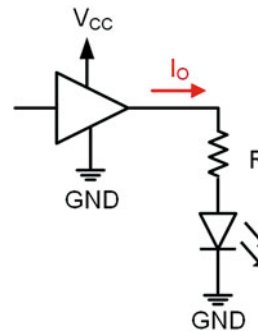

Fig. 3.42
- 3.4.39** For the LED driver configuration shown in Fig. 3.42 where an output of HIGH on the driver will turn on the LED, what is the output current (I_O) if $V_{CC} = +5\text{v}$, $R = 50\ \Omega$, and the LED has a forward voltage of $V_f = 1.9\text{v}$?
- 3.4.40** For the LED driver configuration shown in Fig. 3.42 where an output of HIGH on the driver will turn on the LED, what is the output current (I_O) if $V_{CC} = +5\text{v}$, $R = 100\ \Omega$, and the LED has a forward voltage of $V_f = 1.9\text{v}$?
- 3.4.41** For the LED driver configuration shown in Fig. 3.42 where an output of HIGH on the driver will turn on the LED, what is the output current (I_O) if $V_{CC} = +5\text{v}$, $R = 1\text{k}\Omega$, and the LED has a forward voltage of $V_f = 1.9\text{v}$?
- 3.4.42** For the LED driver configuration shown in Fig. 3.42 where an output of HIGH on the driver will turn on the LED, what is the output current (I_O) if $V_{CC} = +3.4\text{v}$, $R = 50\ \Omega$, and the LED has a forward voltage of $V_f = 1.9\text{v}$?
- 3.4.43** For the LED driver configuration shown in Fig. 3.42 where an output of HIGH on the driver will turn on the LED, what is the output current
- 3.4.44** For the LED driver configuration shown in Fig. 3.42 where an output of HIGH on the driver will turn on the LED, what is the output current (I_O) if $V_{CC} = +3.4\text{v}$, $R = 1\text{k}\Omega$, and the LED has a forward voltage of $V_f = 1.9\text{v}$?
- 3.4.45** For the LED driver configuration shown in Fig. 3.42 where an output of HIGH on the driver will turn on the LED, if $V_{CC} = +5\text{v}$, $R = 75\ \Omega$, $V_f = 1.9\text{v}$, and $I_{O-MAX} = 25\ \text{mA}$, is the maximum output current specification violated?
- 3.4.46** For the LED driver configuration shown in Fig. 3.42 where an output of HIGH on the driver will turn on the LED, if $V_{CC} = +5\text{v}$, $R = 150\ \Omega$, $V_f = 1.9\text{v}$, and $I_{O-MAX} = 25\ \text{mA}$, is the maximum output current specification violated?
- 3.4.47** For the LED driver configuration shown in Fig. 3.42 where an output of HIGH on the driver will turn on the LED, if $V_{CC} = +5\text{v}$, $R = 500\ \Omega$, $V_f = 1.9\text{v}$, and $I_{O-MAX} = 25\ \text{mA}$, is the maximum output current specification violated?
- 3.4.48** For the LED driver configuration shown in Fig. 3.42 where an output of HIGH on the driver will turn on the LED, if $V_{CC} = +3.4\text{v}$, $R = 75\ \Omega$, $V_f = 1.9\text{v}$, and $I_{O-MAX} = 15\ \text{mA}$, is the maximum output current specification violated?
- 3.4.49** For the LED driver configuration shown in Fig. 3.42 where an output of HIGH on the driver will turn on the LED, if $V_{CC} = +3.4\text{v}$, $R = 150\ \Omega$, $V_f = 1.9\text{v}$, and $I_{O-MAX} = 15\ \text{mA}$, is the maximum output current specification violated?
- 3.4.50** For the LED driver configuration shown in Fig. 3.42 where an output of HIGH on the driver will turn on the LED, if $V_{CC} = +3.4\text{v}$, $R = 500\ \Omega$, $V_f = 1.9\text{v}$, and $I_{O-MAX} = 15\ \text{mA}$, is the maximum output current specification violated?
- 3.4.51** For the LED driver configuration shown in Fig. 3.42 where an output of HIGH on the driver will turn on the LED with $V_{CC} = +5\text{v}$ and $V_f = 1.9\text{v}$, calculate the value of the resistor (R) in order to set the current through the LED to be $5\ \text{mA}$.
- 3.4.52** For the LED driver configuration shown in Fig. 3.42 where an output of HIGH on the driver will turn on the LED with $V_{CC} = +5\text{v}$ and $V_f = 1.9\text{v}$, calculate the value of the resistor (R) in order to set the current through the LED to be $12\ \text{mA}$.
- 3.4.53** For the LED driver configuration shown in Fig. 3.42 where an output of HIGH on the driver will turn on the LED with $V_{CC} = +5\text{v}$ and $V_f = 1.9\text{v}$, calculate the value of the resistor (R) in order to set the current through the LED to be $15\ \text{mA}$.
- 3.4.54** For the LED driver configuration shown in Fig. 3.42 where an output of HIGH on the driver will turn on the LED with $V_{CC} = +3.4\text{v}$ and $V_f = 1.9\text{v}$, calculate the value of the resistor (R) in order to set the current through the LED to be $5\ \text{mA}$.
3.4.55 For the LED driver configuration shown in Fig. 3.42 where an output of HIGH on the driver will turn on the LED with $V_{CC} = +3.4\text{v}$ and $V_f = 1.9\text{v}$, calculate the value of the resistor (R) in order to set the current through the LED to be $12\ \text{mA}$.
3.4.56 For the LED driver configuration shown in Fig. 3.42 where an output of HIGH on the driver will turn on the LED with $V_{CC} = +3.4\text{v}$ and $V_f = 1.9\text{v}$, calculate the value of the resistor (R) in order to set the current through the LED to be $15\ \text{mA}$.